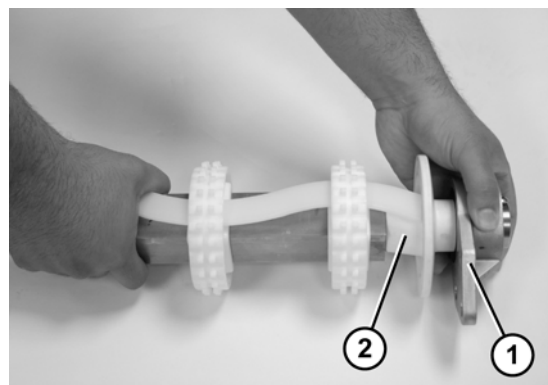

Figure 71
9. Slide the 3 hole flange with bearing (**Figure 71, item 1**) and flanged puck (**Figure 71, item 2**) off the drive spindle.